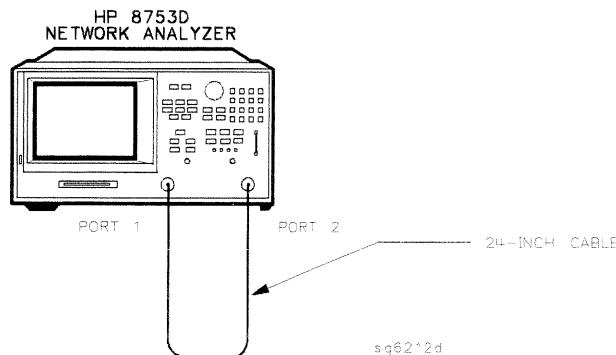

Figure 2-40. Test Port 2 Input Impedance Test Setup
14. Connect the equipment as shown in Figure 2-40.